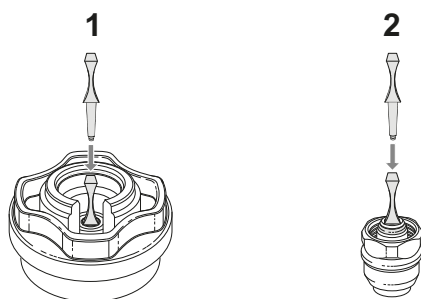

Fig. 46 Fitting blind plugs
2. Fit blind plugs to the quick connect coupling (Fig. 46, 1) and adapter (2).